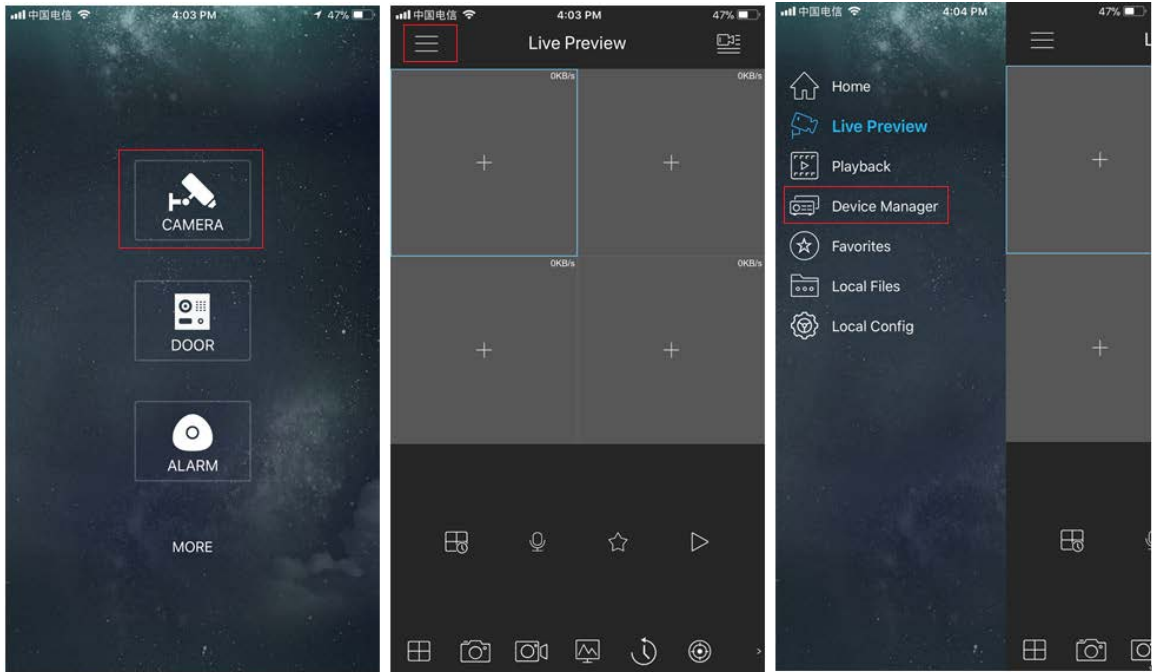

Figure 3-20
- 1) Click  and select Device Manager. See Figure 3-20.